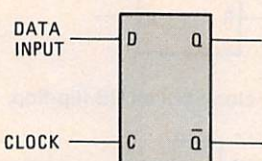

Fig. 13—Logic symbol for a D-type flip-flop.
shown in Fig. 13 are used to represent a D-type flip-flop. Note that instead of separate set and reset input, a single data input (D) is used. To set the flip-flop, a binary 1 is applied to the data input. When the clock pulse occurs at the C input, the flip-flop is set. To reset the flip-flop, a binary 0 is applied to the data input. The flip-flop assumes the set state when a clock pulse occurs.